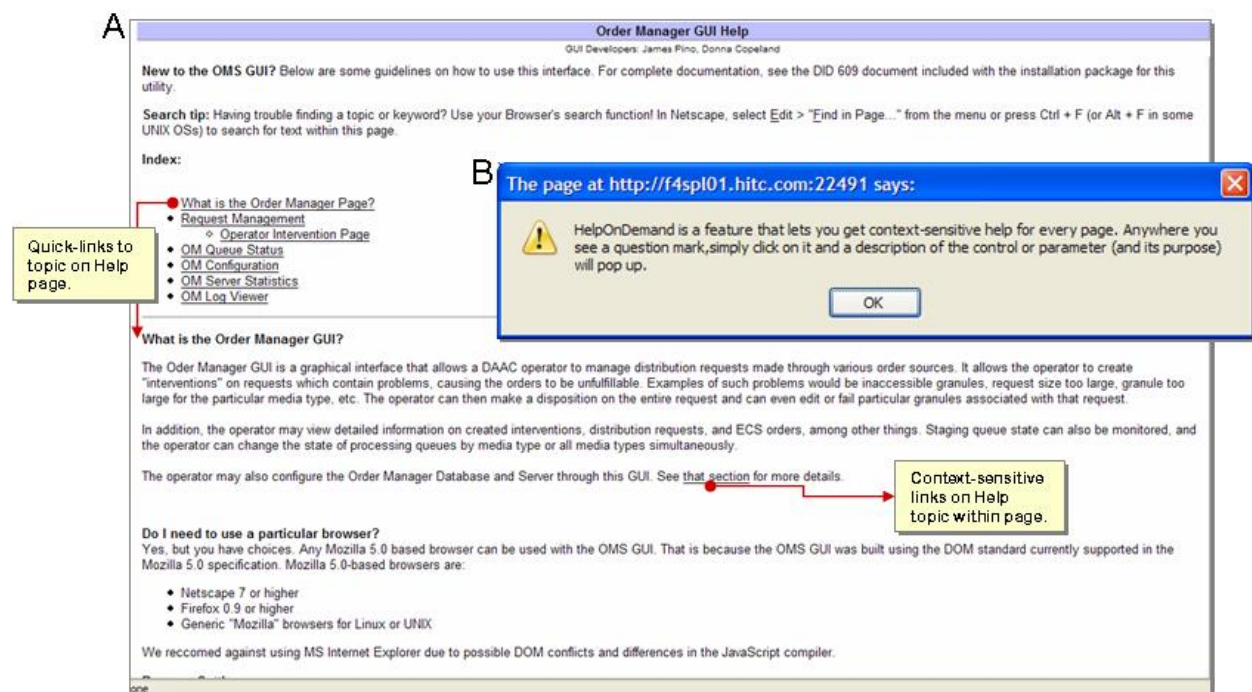

Figure 15.11-1. Help Page (A) and HelpOnDemand Example (B)
- **HelpOnDemand** – features context-sensitive help for each page, particularly for controls or parameters that may not be entirely self-descriptive. Depicted by a question mark (?) located next to a button or text field on an **OM GUI** page, whenever clicked, a dialog box (Figure 15.11-1, Frame B) opens that describes the item in question.
- **Help** – features help on various topics covering usage of the Order Manager GUI. The **Help** submenu option is access from the **OM GUI** menu home page. (Figure 15.11-1, Frame A) to be displayed.
The **About HelpOnDemand...** allow Operator to get context-sensitive help on every OM GUI page. Signified by a question mark (?), the Operator simply clicks the question mark to get descriptive context of the control or parameter in a pop-up window (Figure 15.11-1, Frame B).
The Order Manager GUI **Help** (Figure 15.11-1, Frame A) submenu feature provides Operator with several guidelines on how to use the OMS GUI. Complete documentation can be found in the DID 609 document which was included with the installation package for the OMS utility.
The Help submenu (Figure 15.11-1, Figure A) hypertext-index features the following topics: